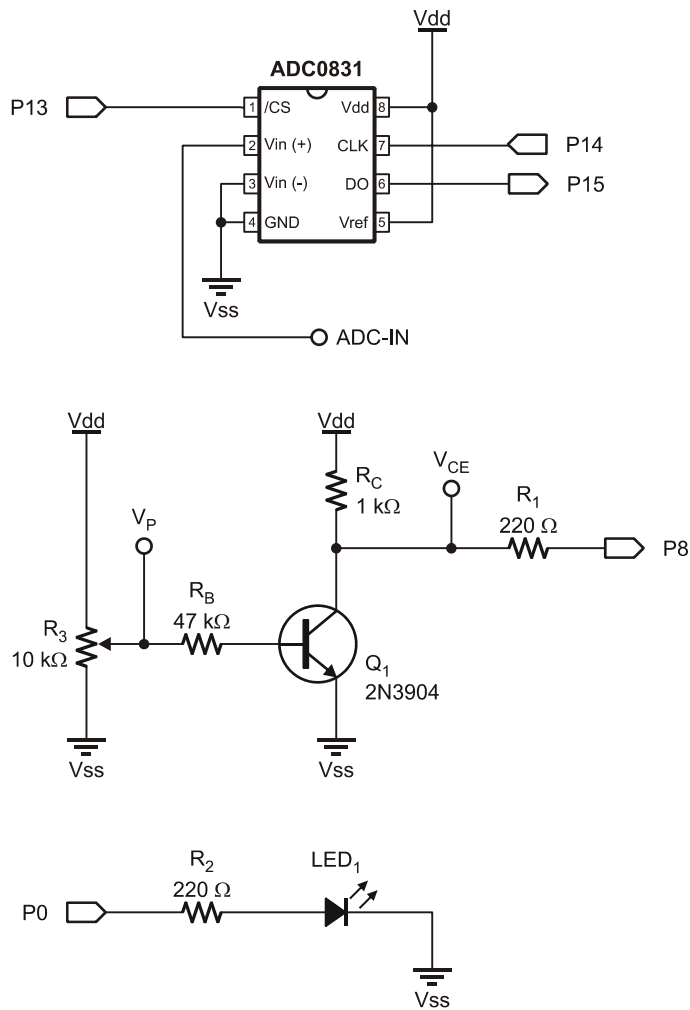
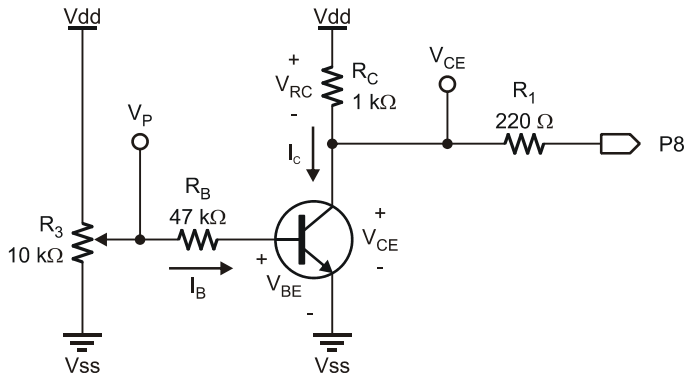

Figure 3-12
Figure 3-13
- (1) LED – Red
- √ Construct the circuit shown in Figure 3-12.
Analyzing what is occurring with reference to Figure 3-13:
- √ Begin with the circuit from Activity 3, Figure 3-12 with ADC-IN connected to V_{CE} .
Relative to using a $1\text{ k}\Omega$ value for R_C (see Figure 3-12 and Figure 3-13), how much movement does it now take to control the transistor over its full active range? Since I_{SAT} is so much smaller, a much lower value of I_B required for saturation is defined, and thus a much lower value of V_P to reach saturation, which means the potentiometer needs to be rotated a smaller amount.